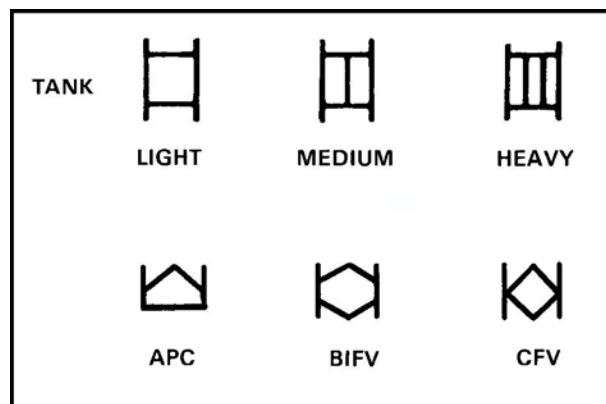

Figure 10. Armored vehicle symbols.
i. Armored vehicles (Figure 10).